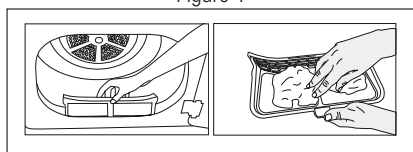

Figure 2
- 2.b If the product's fluff filter is as shown in Figure 2, remove the filter by pulling it up.